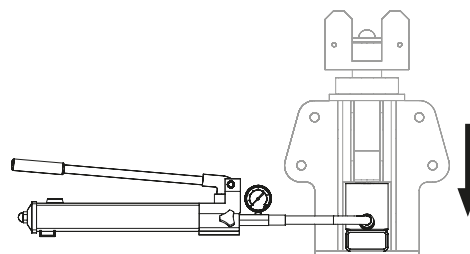

Fig. E2.01c
4. Release pressure from the hydraulic cylinder (**50.1**). (Fig. E2.01c)